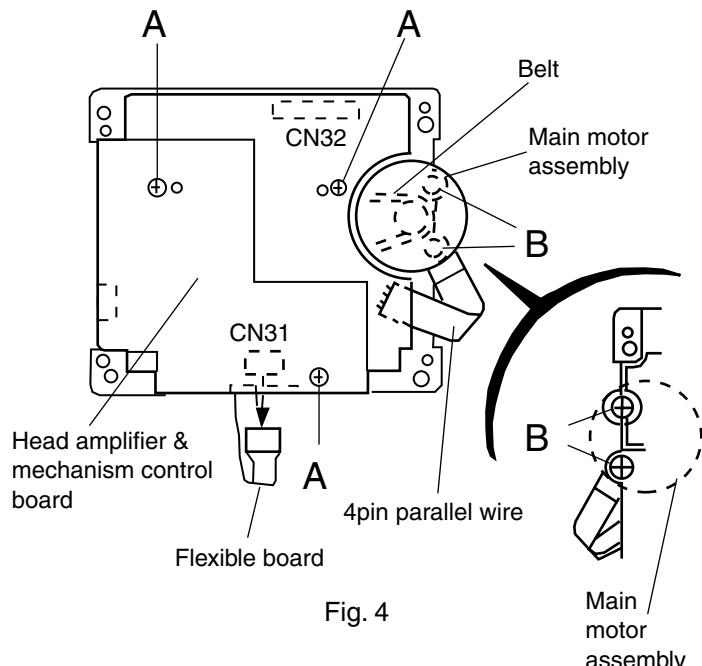

Fig. 4
## ■ Removing the head amplifier & mechanism control board (See Fig. 4)
1. Remove the two screws **B** retaining the main motor assembly (See Fig. 4 and 4a).